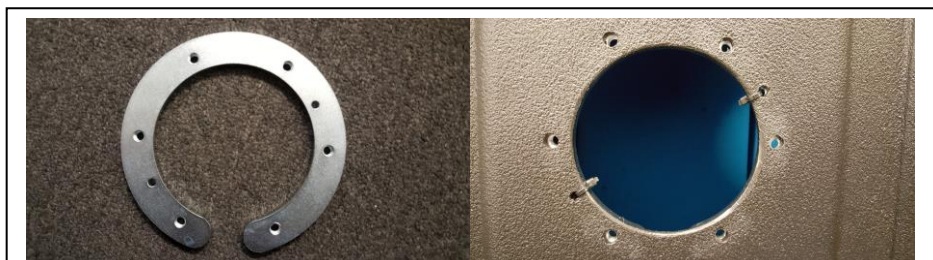

Figure 4: Mounting ring zip tie Locations
8. Take the included mounting ring and insert it into the fuel tank via the slot in the part. Then using the included zip ties, zip tie the mounting ring to the inside of the tank via the two small holes that were drilled in step 3. **See Figure 4.**
9. Take the included mounting ring and insert it into the fuel tank via the slot in the part. Then using the included zip ties zip tie the mounting ring to the inside of the tank via the two small holes that were drilled in step 3. **See Figure 4**